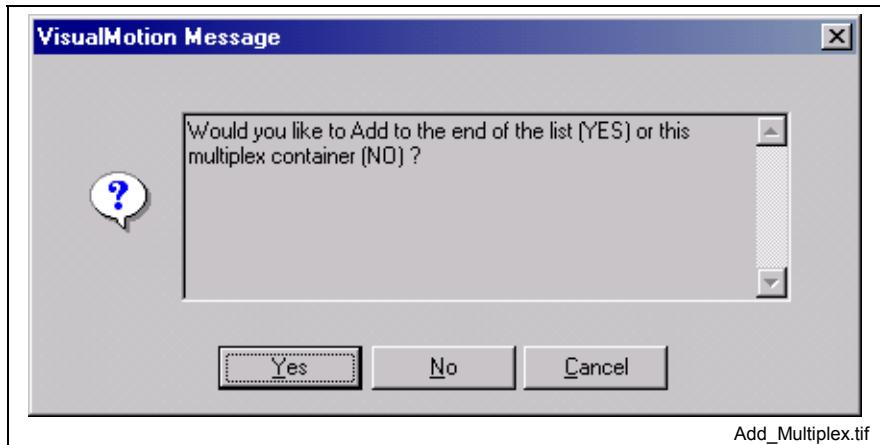

Fig. 7-140: Add Item or Multiplex Item Window
2. Click **Add**. The window in Fig. 7-140 below appears. Because it is unclear whether you would like to add to the list or to the multiplex container, the Fieldbus Mapper is requesting clarification.